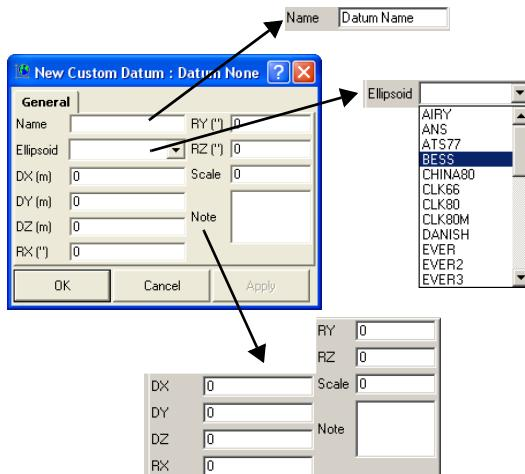

Figure 3-10. Enter Custom Datums Parameters
3. In the **New Custom Datum** dialog box, enter the following information for the new projection (Figure 3-10).